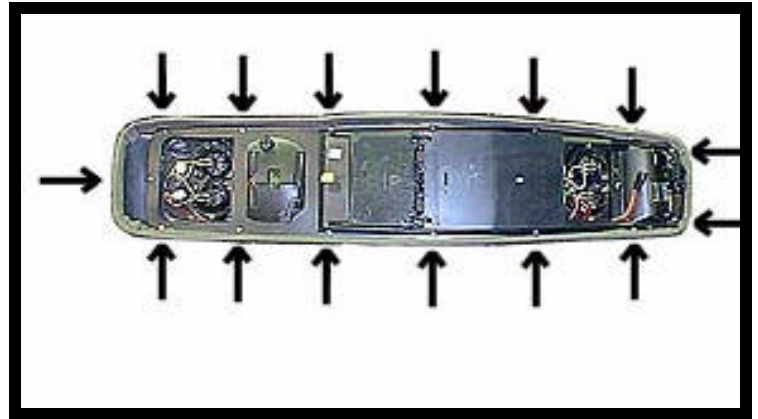

FIGURE 4
4. Turn console upside down and remove and retain (15) fifteen T-15 TORX screws which secure the cloth covered trim ring to console. See Figure 4.